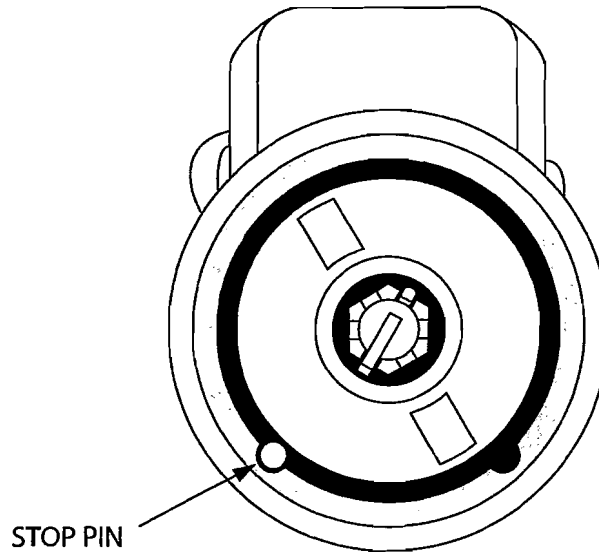

FIGURE 1
- B. Inspect the magneto to confirm that the stop pin is present in the magneto frame. View the drive end of the magneto where the impulse coupling is attached and position the magneto as detailed in Figure 1. The magneto stop pin should be located at approximately the 8 o'clock position. Only one stop pin is installed in the magneto and the hole in the magneto frame located at the 4 o'clock position should be open.